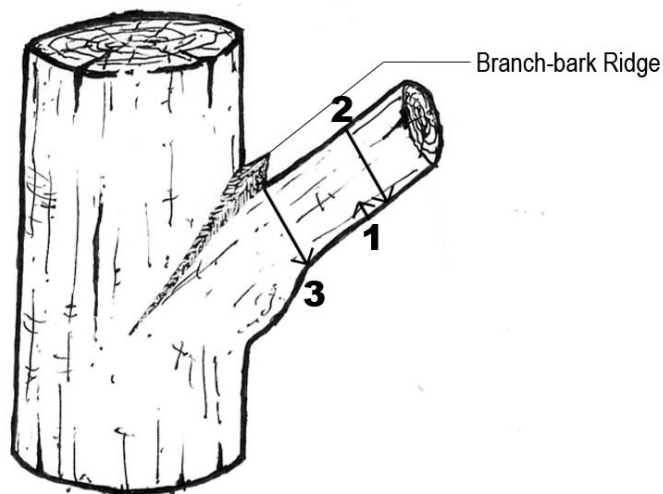

Figure 2.
- Make pruning cuts using the *three-cut method* for heavy branches (larger than three inches) to avoid damaging remaining bark. Avoid stub cuts, flush cuts, and wounds to remaining limbs and *trunk*. See Figure 2.